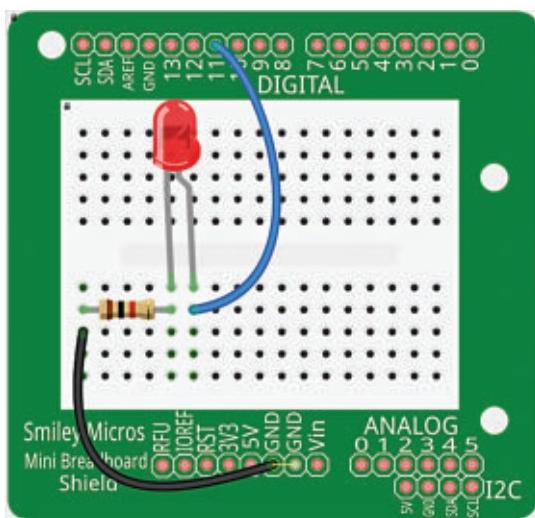

FIGURE 13:
- Connect the LED to pin 11 as shown in **Figures 13** and **14**.